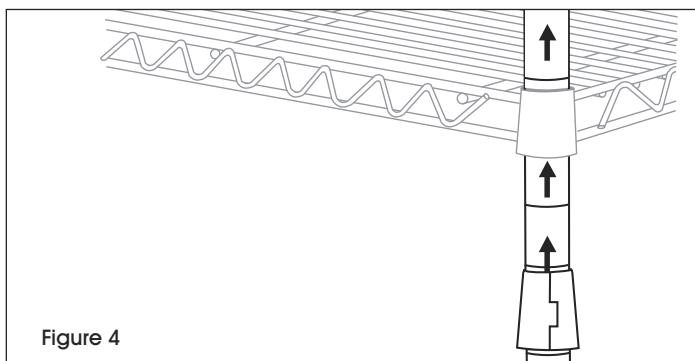

Figure 4
5. Slide posts through underside of shelf until shelf slides firmly over supports. (See Figure 4)